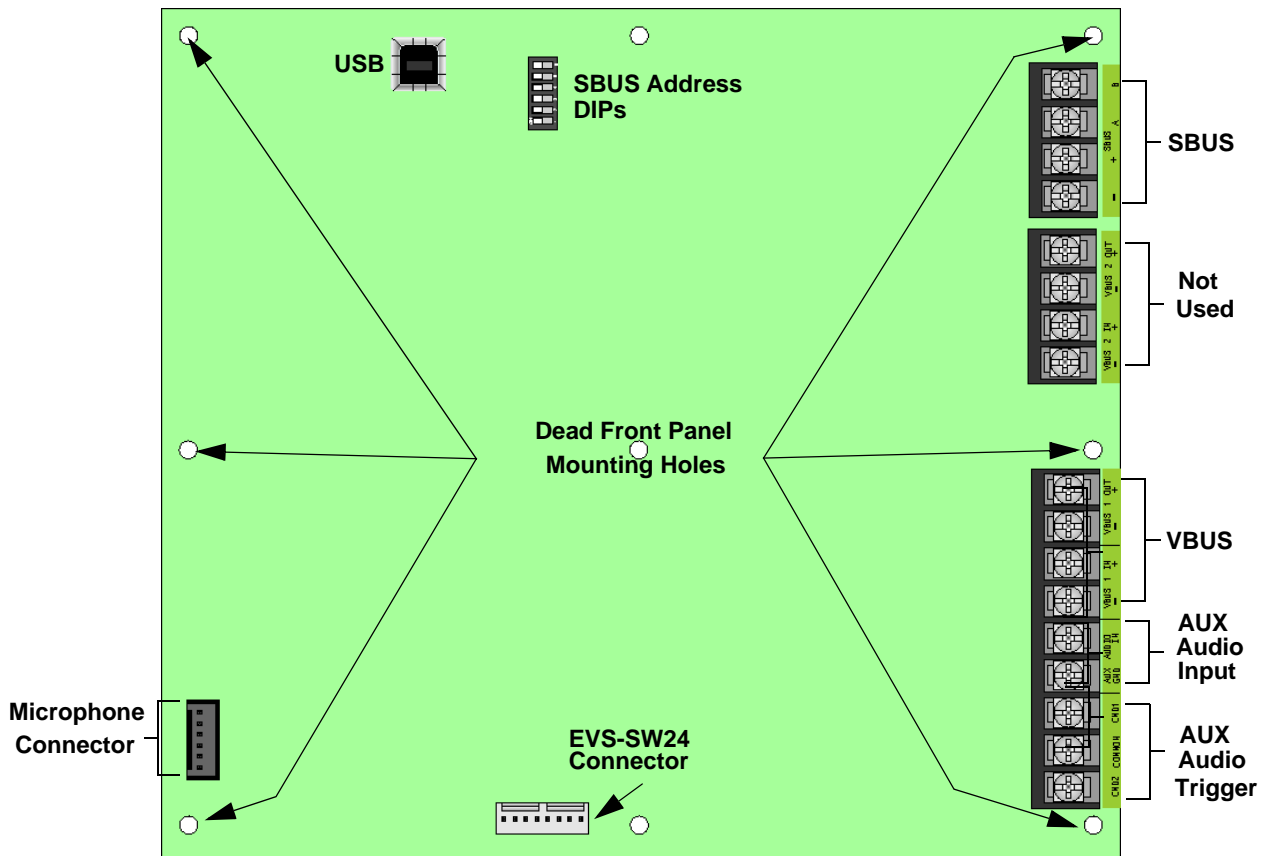

Figure 4.1 Back View of EVS-VCM
3. Disconnect any devices connected to the VBUS. See Figure 4.1.